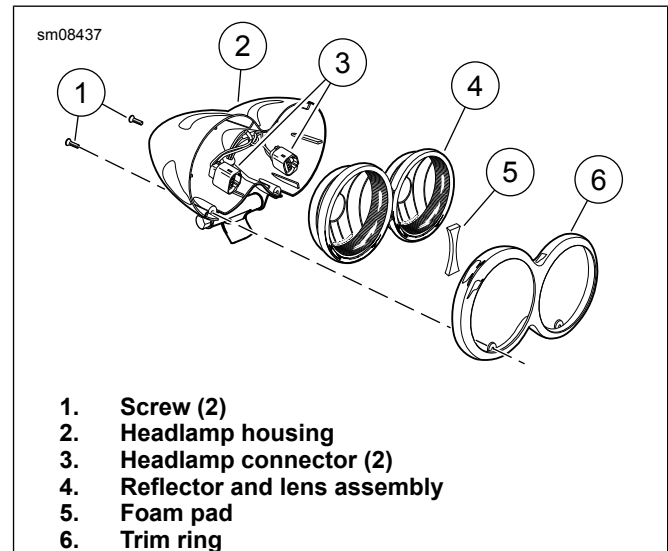

Figure 1. Dual Headlamp
2. See Figure 1. Remove screws (1). Save the screws.